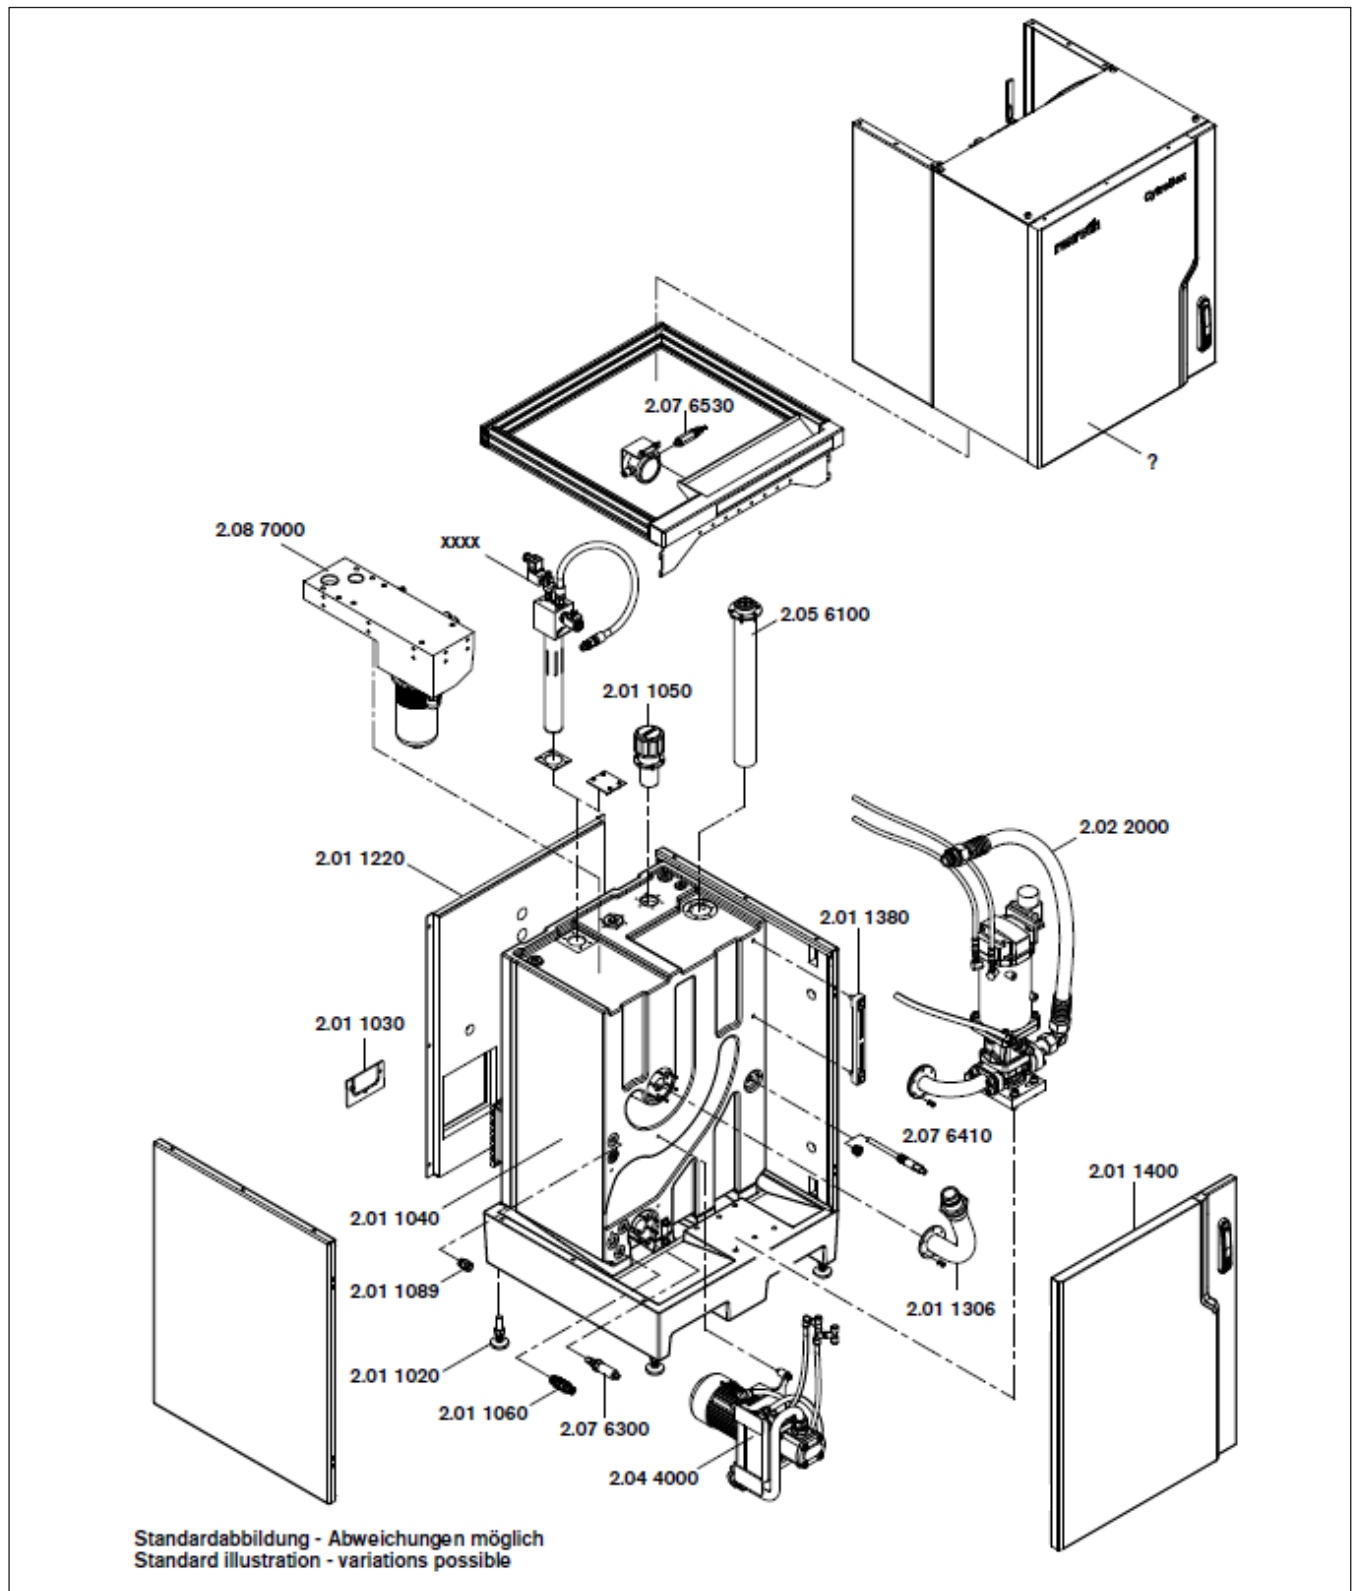

Fig. 38: Spare and wear parts
- For a list of spare and wear parts for the hydraulic power unit, refer to Fig. 38 and Table 50: